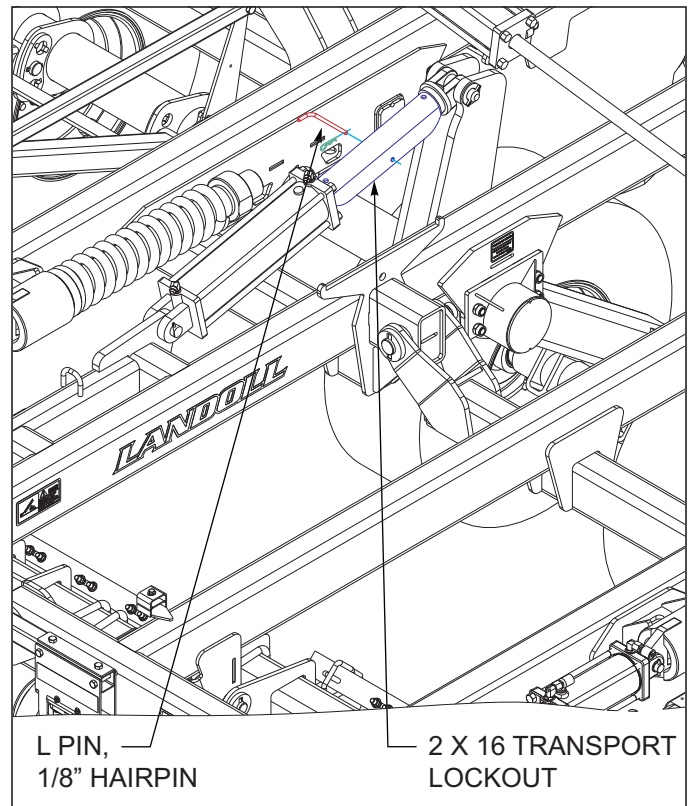

Figure 4-12: Installed Transport Locks
7. Install transport locks on both lift cylinders. Do not depend solely on implement hydraulics for transport. *See Figure 4-12.*